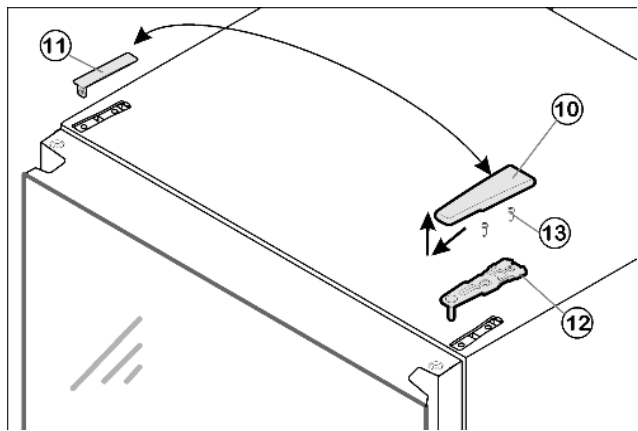

Fig. 10
- ▶ Pull off the cover *Fig. 10 (10)* forwards and upwards.
- ▶ Lift off the cover *Fig. 10 (11)*.
- ▶ Unscrew the upper turn hinge *Fig. 10 (12)* (2x Torx 25) *Fig. 10 (13)* and raise it for removal.
- ▶ Insert the upper turn hinge Fig. 10 (12) in the door on the new hinge side.
- ▶ Screw the upper turn hinge Fig. 10 (12) firmly into place (with 4 Nm)(2x Torx 25) Fig. 10 (13). Possibly make preliminary holes with a bradawl or use a cordless screwdriver.
- ▶ Snap the cover Fig. 10 (10) and cover Fig. 10 (11) into place at the opposite side.